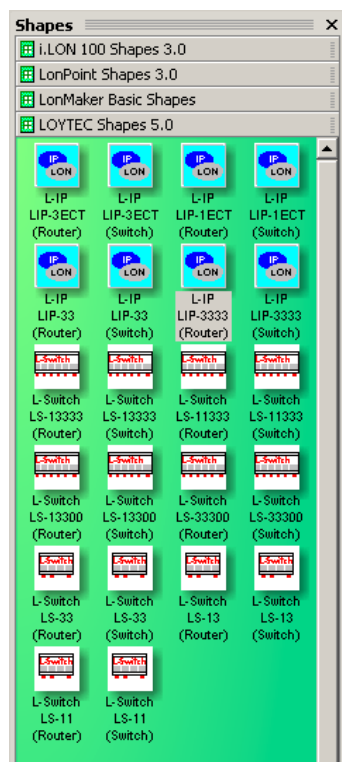

Figure 1: LOYTEC shapes sheet version 5.0.0
3. Now the LOYTEC shapes should be accessible in your LonMaker environment (see Figure 1).